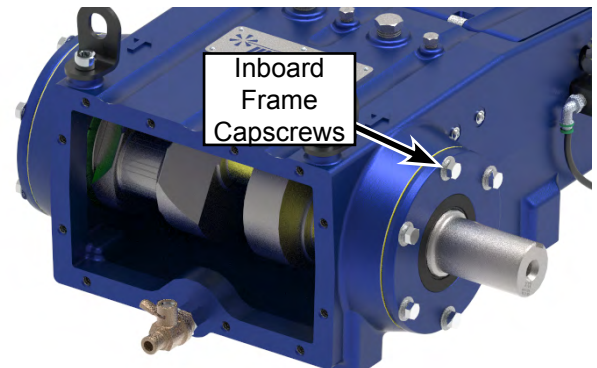

Figure 131: Remove Inboard Capscrews.
5. Remove the capscrews and washers that secure the inboard frame cap to the power frame. (Figure 131)